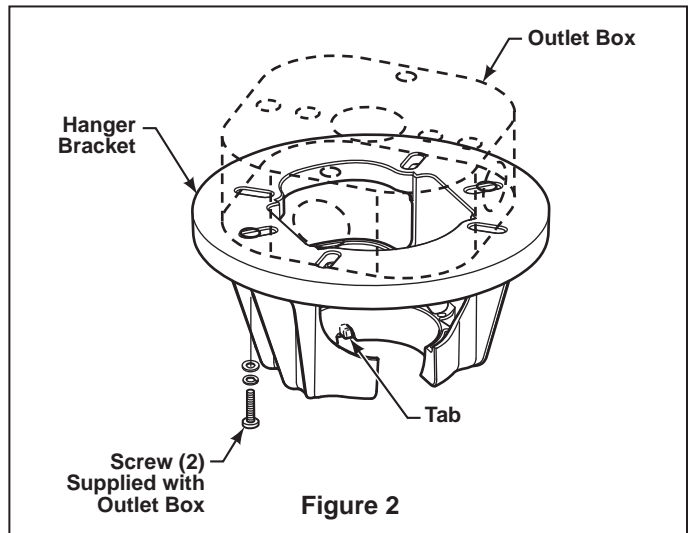
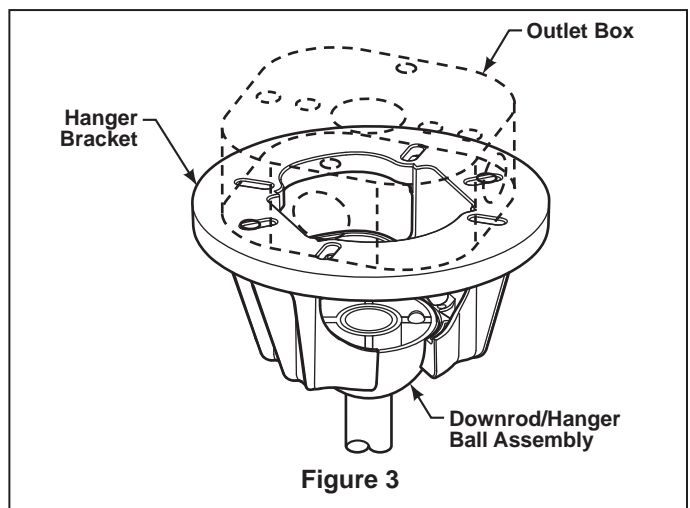

Figure 2
Figure 3
3. Loosen the two setscrews in the Downrod Support. Align the Clevis Pin holes in the Downrod with the holes in the Downrod Support. Install the Clevis Pin and secure with the Hairpin Clip. (Figure 3) Be sure to push the straight leg of the hairpin clip through the hole near the end of the clevis pin until the curved portion of the hairpin clip snaps around the clevis pin. The hairpin clip must be properly installed to prevent the clevis pin from working loose. Pull on the Downrod to make sure the clevis pin is properly installed.
4. Route wires through Motor Coupling Cover, Canopy (with Canopy Screw Cover) on fan shown with open side facing up. (Figure 3)
1. Securely attach the hanger bracket to the outlet box using the outlet box screws and washers supplied with the outlet box (Figure 2).
NOTE: Outlet box screws pass through slotted holes of the hanger bracket (Figure 2).
3. Carefully lift the fan and seat the downrod/hanger ball assembly on the hanger bracket that was just attached to the outlet box (Figure 3). Be sure the groove in the ball is lined up with tab on the hanger bracket (Figure 2).
3. Disassemble Switch Cup Cover from Switch Cup Support Plate by removing three screws. (Figure 3)